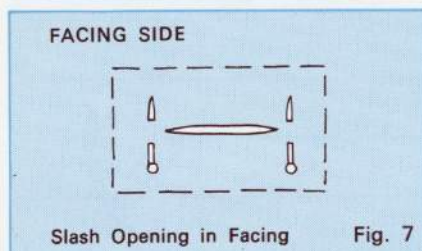

Fig. 7
6. After buttonhole has been pressed, baste facing of garment around buttonhole and slash opening in facing same length as buttonhole. (Mark ends of buttonhole with pins for guides). Turn under facing edges and hem to buttonhole carefully. (Fig. 7, 8)